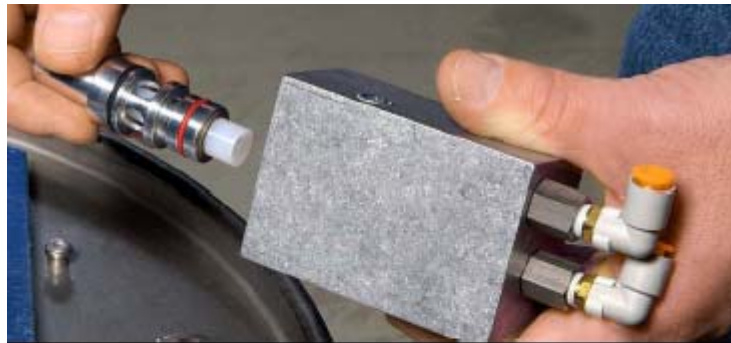

Fig. 5-13
4. Extract the holder from the pump (Fig. 5-13).
5. Extract the Venturi throat from the holder (1, Fig. 5-13).